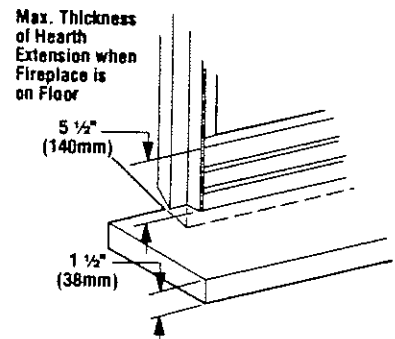

Figure 55
**WARNING: FIREPLACE MUST BE RAISED IF HEIGHT OF HEARTH EXTENSION EXCEEDS 1 1/2" (38 MM) ABOVE BOTTOM OF FIREPLACE (FIGURE 55).**